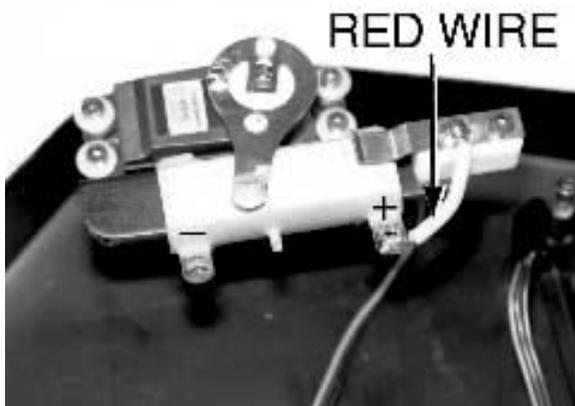

Fig. 175
The following assembly only applies to the BUSHING KITS. If you have a BALL BEARING KIT you will NOT have a bag #6-13. You can skip forward in the manual to fig. 175
□ **Fig. 175, 176 & 177** Now we can begin to connect the wire harness for the throttle resistor and battery pack. (1) In bag #6-13 you will find a small 2 inch piece of red 16 guage wire. (2) Solder one end of this wire to the #6714 brass bypass tab. Then solder the other end to the closest tab on the #6711 throttle resistor. This will be the positive terminal on the resistor. You can shorten the wire to improve the efficiency and appearance of the connection. See fig. 175.